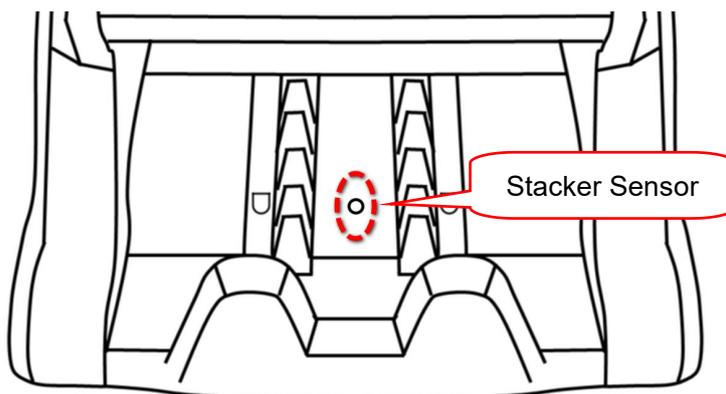

Figure 95
As shown in the following Figure 95, clean the sensor with nylon brush or cleaning cloth. (ST)